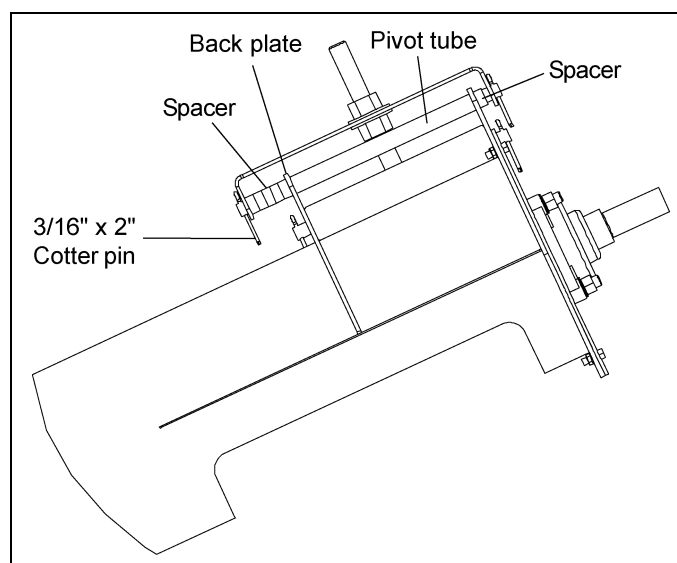

Figure 4G
4. When the pivot rod begins to extend through the pivot tube, install the spacers BETWEEN the back plate and the inner face of the motor mount plate. (See Figure 4G.)